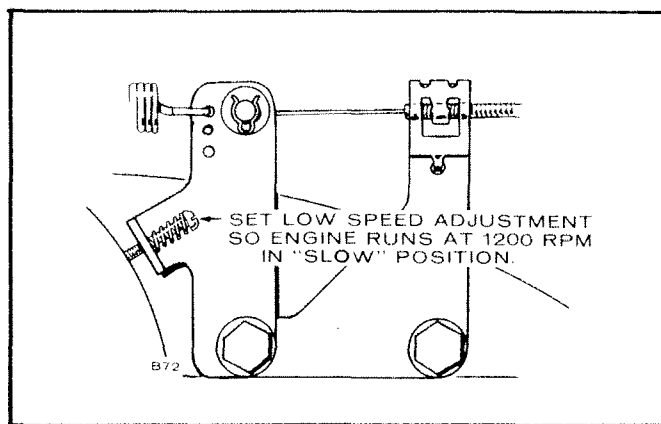
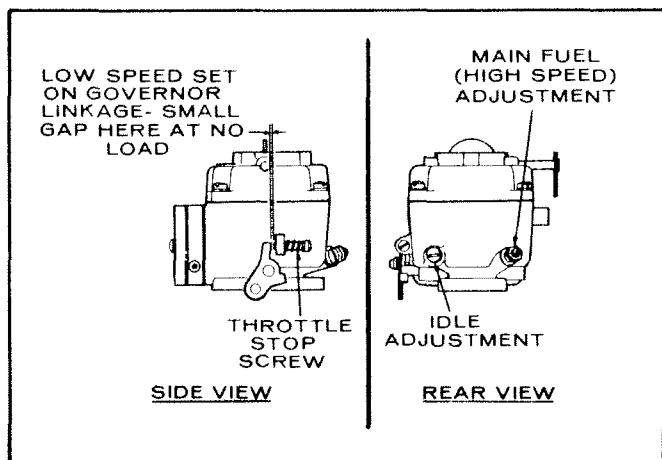

FIGURE 8. LOW SPEED ADJUSTMENT
FIGURE 7. MAIN FUEL AND IDLE VALVE ADJUSTMENT
The carburetor has a main fuel valve adjusting screw and an idle valve adjusting screw (Figure 7). A low speed adjustment screw is shown in Figure 8.
2. Hold engine at idle position and set low speed adjustment screw (Figure 8) until a fast idle is obtained (1200 rpm).